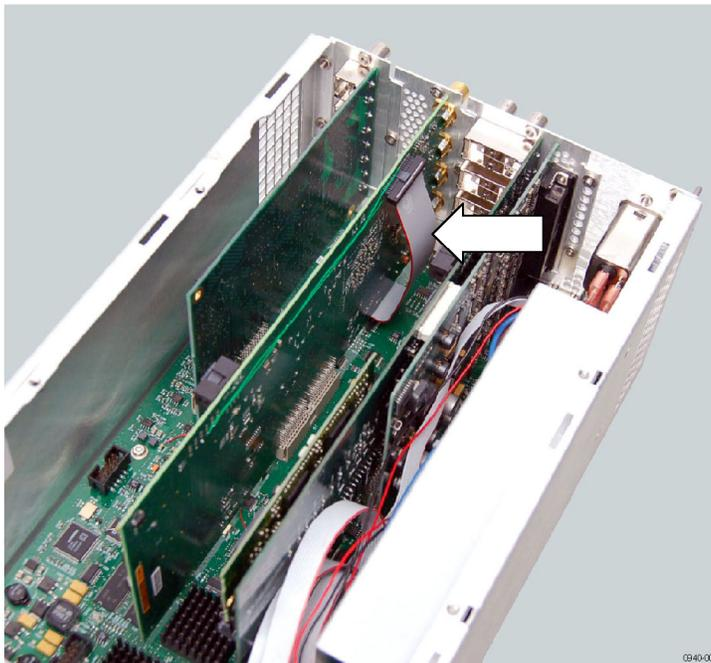

Figure 9: Installing the Option 3G cable
- Option 3G: Dress the cable towards the power supply. (See Figure 9.)